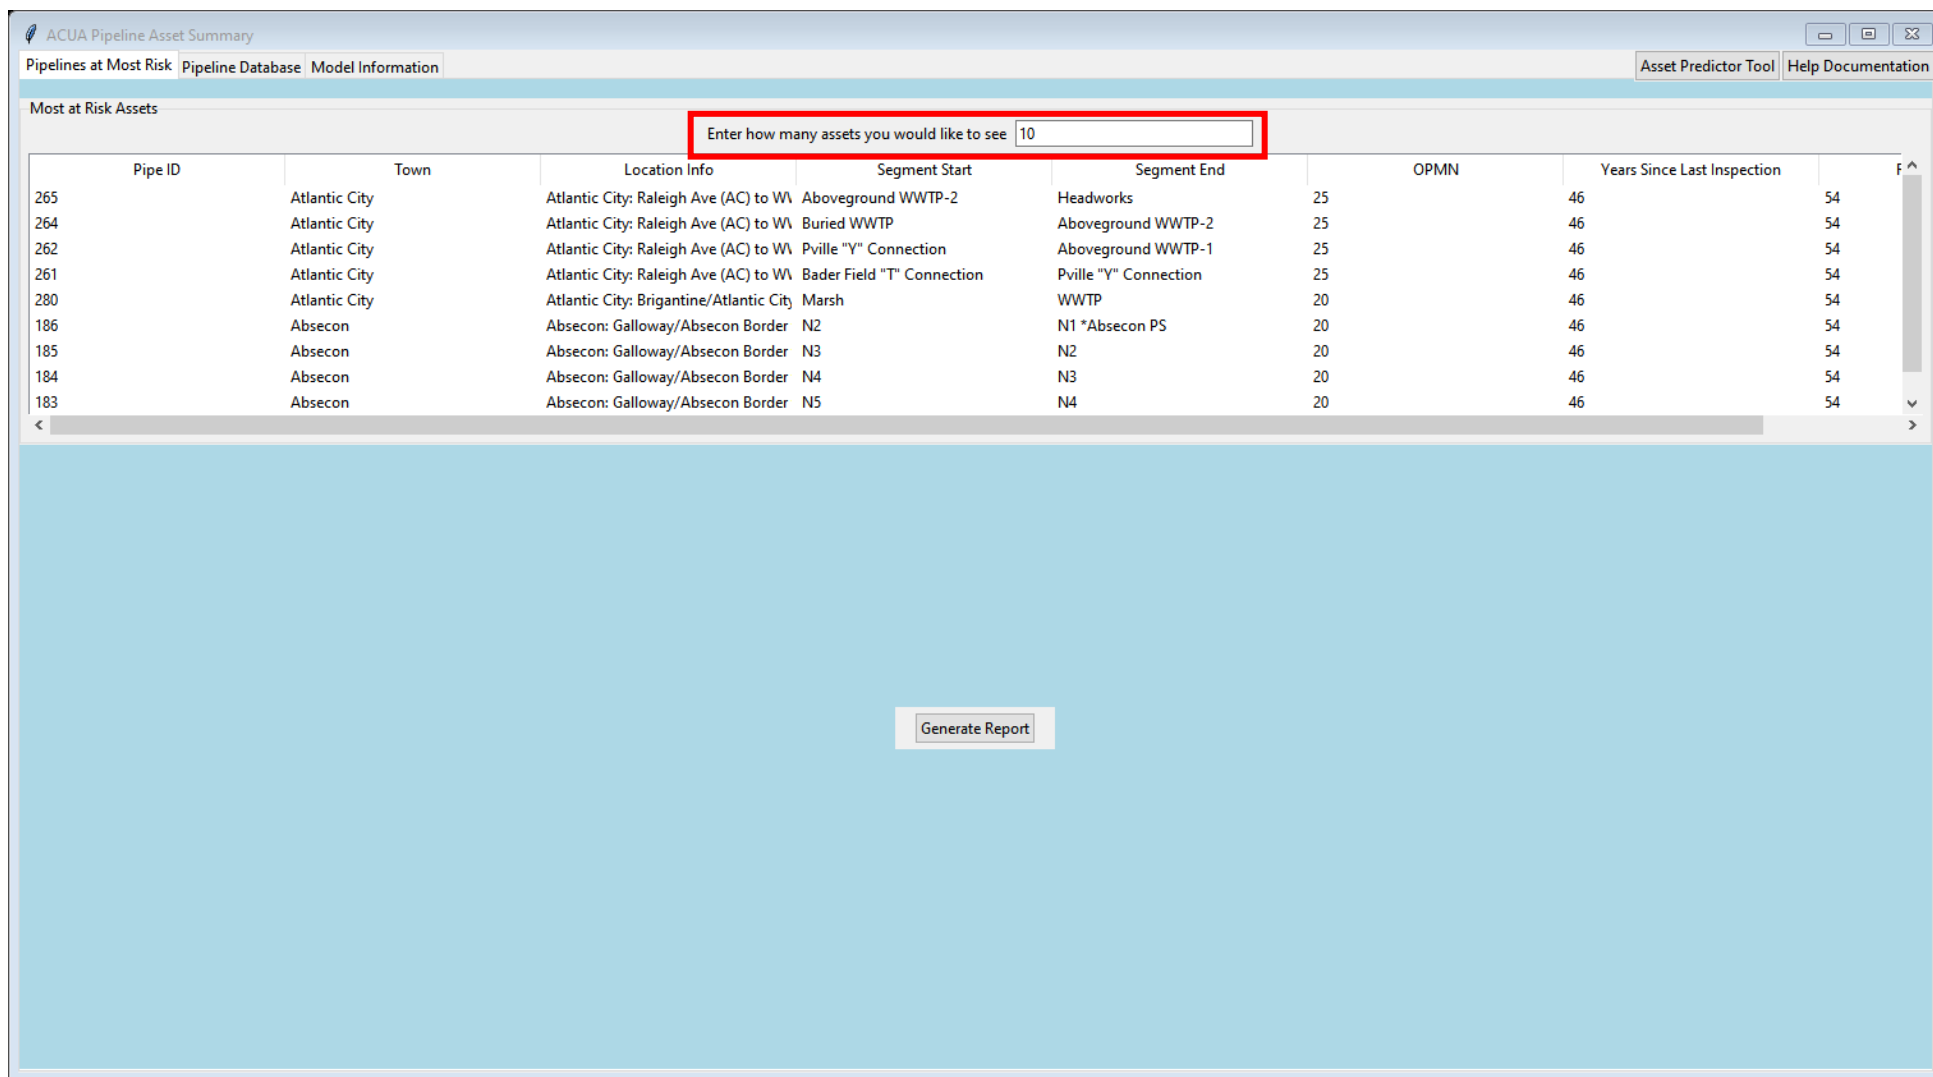

Figure 4: "Enter How many assets you would like to see" function
1. Locate the boxed area found in Figure 4
5. When you press enter the corresponding table below the boxed area found in Figure 4 should change to the desired number